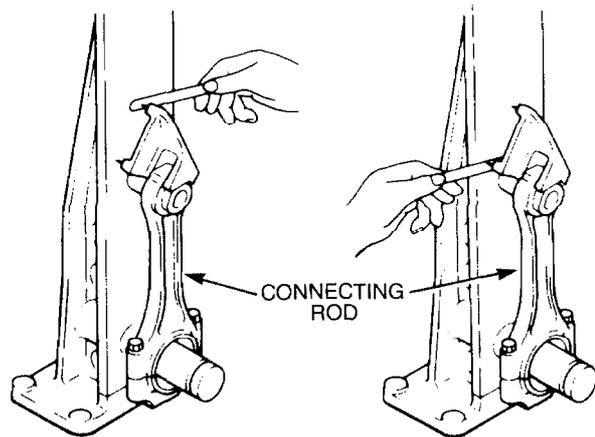

Figure 244 — Checking Connecting Rod Alignment
- p. Install the connecting rod on an alignment jig and check for bend or twist as shown in Fig. 244. The allowable bend is 0.05mm (0.002 in.) and 0.10 mm (0.004 in.) for twist. Replace the connecting rod as necessary.